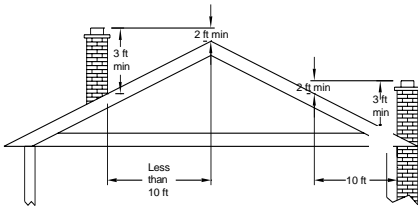

FIGURE 1
**.2** Authorities require that the masonry chimney extend not less than three feet above the highest point where it passes through the roof of a building and not less than two feet above any portion of the building within ten feet. (See FIGURE 1.)